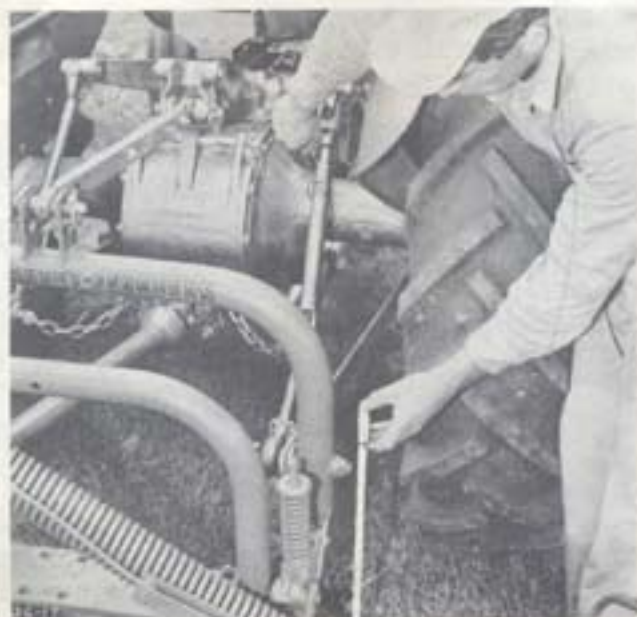

Fig. 17 Adjusting Operating Height—Right Side
2. Using the hand crank on the right hand lift link, set the right hand hitch pin also to 19½ to 20 inches off the ground; measure this distance the same way as with the left link, see Fig. 17.